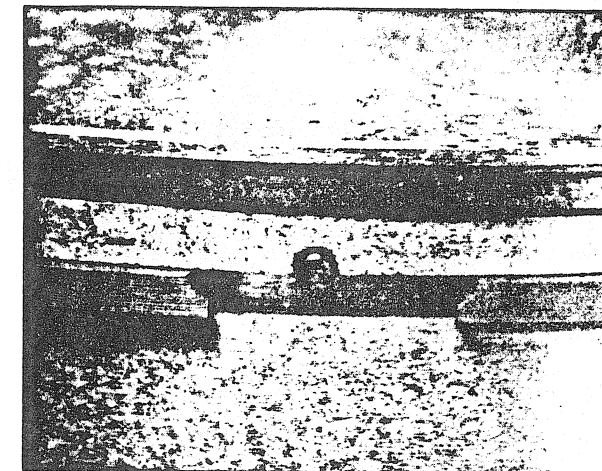

FIGURE 35
**CAUTION:** Make sure the "V" ends of the ring sit correctly onto the ring stopper (fig. 35).